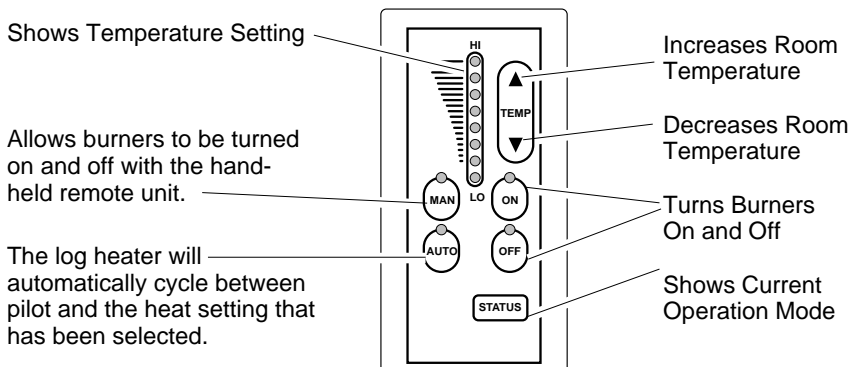

Figure 35 - Thermostat Hand-Held Remote Control Unit Selections (CGHRCT Only)
- 2b. Select the MAN (manual) or AUTO button on the hand-held remote control unit (see Figure 35, page 18).